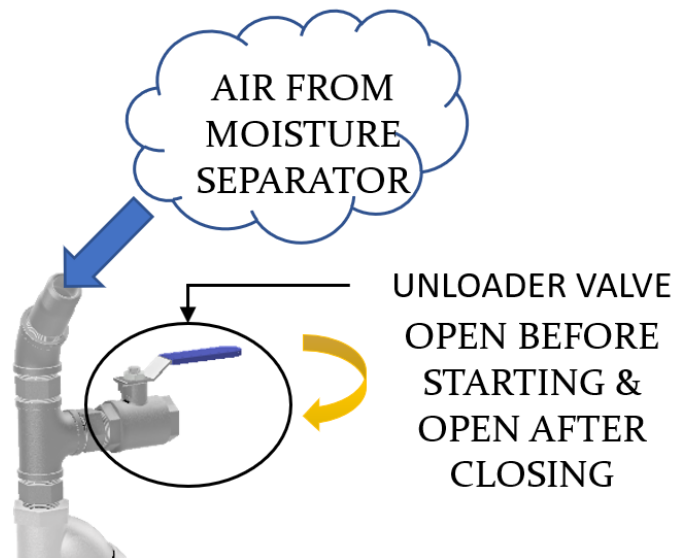

Figure 3: Unloader Ball Valve
Step 1a: Open unloader-ball-valve to the open position by turning valve handle parallel with the valve port (valve indicated in Figure 3).
Step 5a: Close unloader-ball-valve (as seen in Figure 3), ensuring that the handle is perpendicular to the valve port.